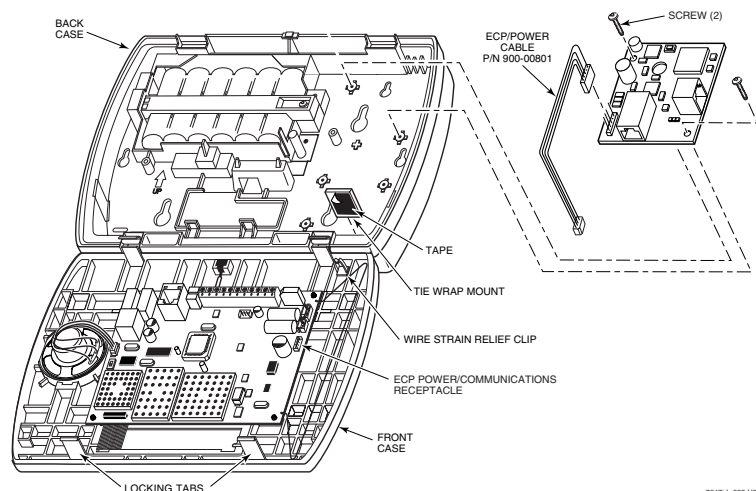

Figure 2 - Mounting the 7847i-L
1. Install the module into the Lynx Plus Series back case as shown in Figure 2 and secure it with the two provided screws.
2. Connect the provided ECP Power/Communications cable PN 900-00801 between the module and the PC board as shown in Figure 2. This cable provides DC power and ground and data in/out connections for the module.